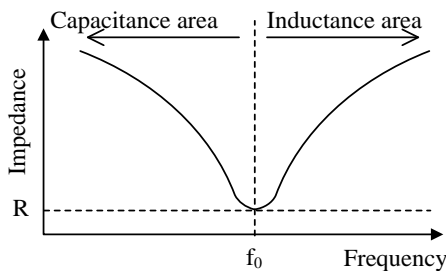

Figure 8-2. Impedance of Resonant Circuit
When the frequency, f , changes, the impedance of resonant circuit will change as shown in Figure 8-2.
When $2\pi fL = 1/2\pi fC$, \dot{Z} of Equation (2) becomes the minimum value, R (see Figure 8-2). In the case, ω is calculated by Equation (3).